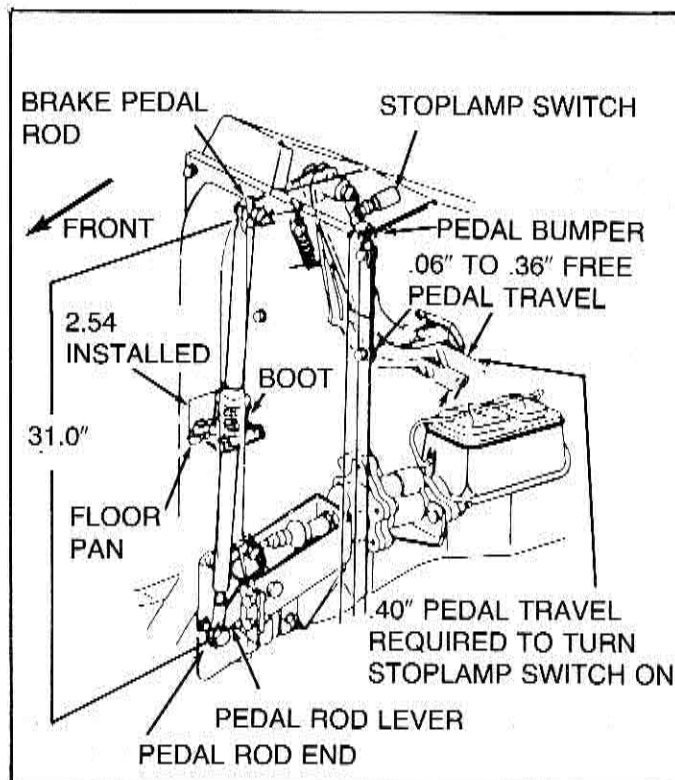

Figure 6-8 — Actuating Rod/Brake Pedal/Stoptight Adjustment
NOTE: Proper adjustment of the stoplight switch allows .06 inch to .36 inch free pedal travel and will turn on the stoplight switch after approximately .40 inch travel. (See Figure 6-8.)
3. Check the 31-inch rod that runs down the front of the chassis and connects the brake pedal to the Hydro-Boost for proper adjustment. (See Figure 6-8.) The rod can be adjusted (longer or shorter) using the screw adjustment located at the bottom of the rod. Block the wheels and hold the inside pedal in the "full-up" position. Check that there is free entry of the special bolt through the relaxed pedal rod lever connecting the linkage into the Hydro-Boost. Turn the adjustment screw to lengthen or shorten the rod as necessary.